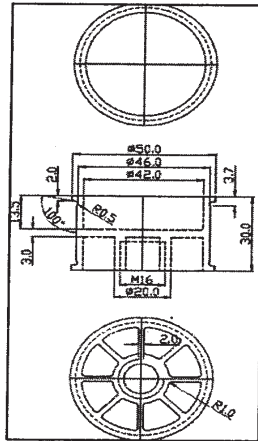

Figure 1
- Q7)** Design a 2 cavity mold for the component shown in figure 1. Draw at least 2 views with one sectional view to bring out the details of the feed, cooling and ejection system, Illustrate the relevant design calculations. [30]